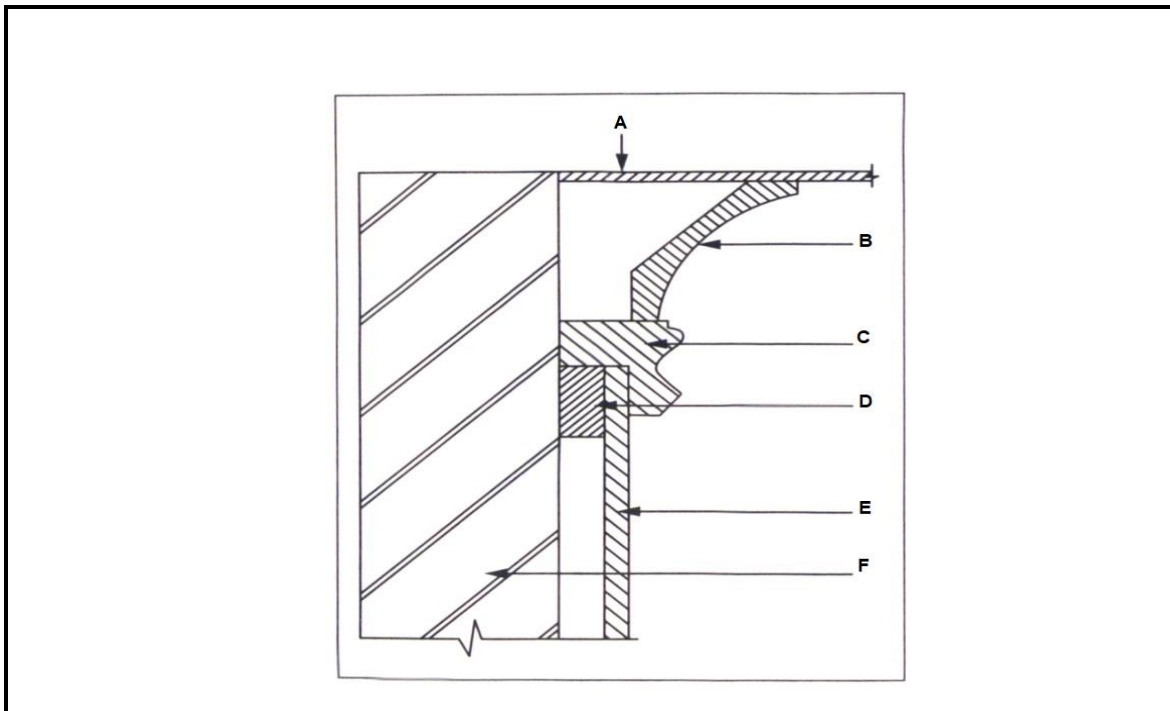

FIGURE 3.2
- 3.2 FIGURE 3.2 below shows the sectional view of a tongue and groove wall panel from the floor to the ceiling, fastened to a 110 mm thick wall. Study the drawing and answer the questions that follow.